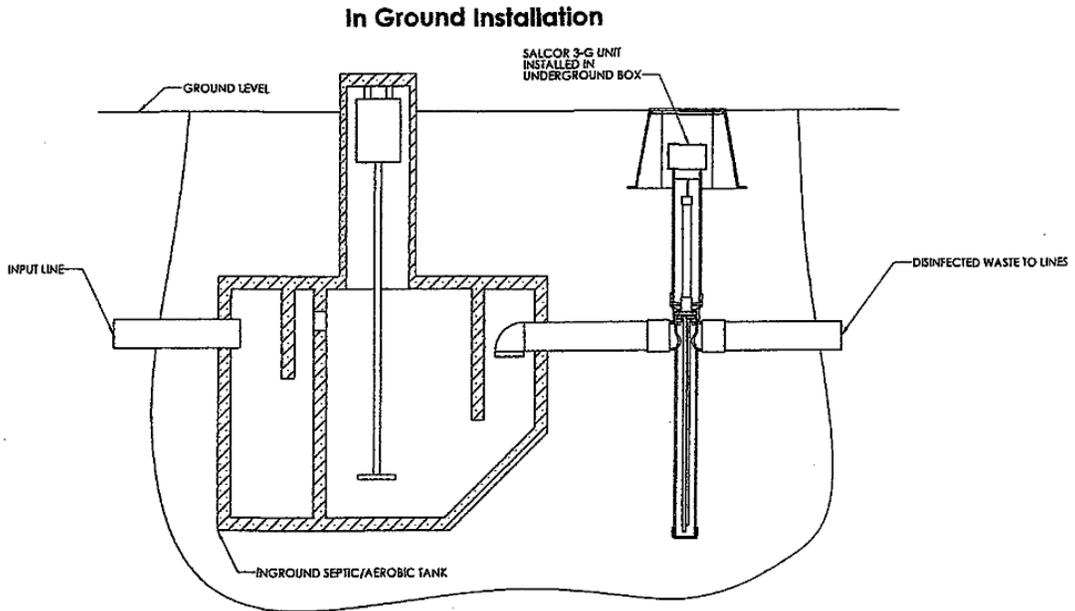

Figure 2
1. In the Ground Installation: Couple the 4-inch inlet pipe to the exit pipe of the pretreatment unit, and couple the 4-inch outlet pipe to the drain field pipe. See **Figure 2** (Page 5).
Note: **Figure 2** (page 5) indicates that the electrical junction box should be placed at ground level. The junction box could be placed below grade in an irrigation valve box. The Junction box is rated NEMA 6P. However, for safe continuous operation, the junction box should be protected from flooding.